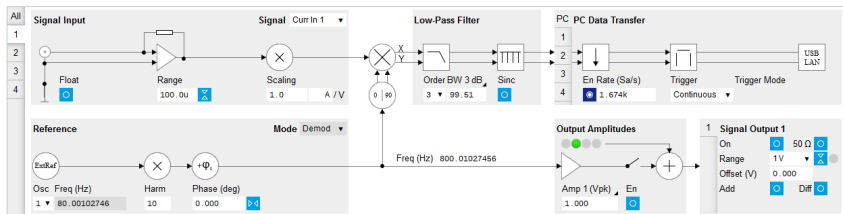

Figure 4.27: Lock-in tab setup for measurement at 800 Hz (with MF-MD option)
**With MF-MD Multi-demodulator option:** Open the graphical Lock-in tab of the first demodulator. We use this demodulator to perform the lock-in detection. In the Signal Input section of the graphical Lock-in tab, select Current Input 1 and change the input range to 100  $\mu$ A. In the Reference section, choose Oscillator 1 and set the Harmonic (Harm) to 10, cf. Figure 4.27 on page 65 . In the circuit diagram of the graphical Lock-in tab, you should observe the numeric value of the demodulation frequency, 800 Hz. Set the Low-Pass Filter to 100 Hz (3rd order) and enable the data stream in the PC Data Transfer section.